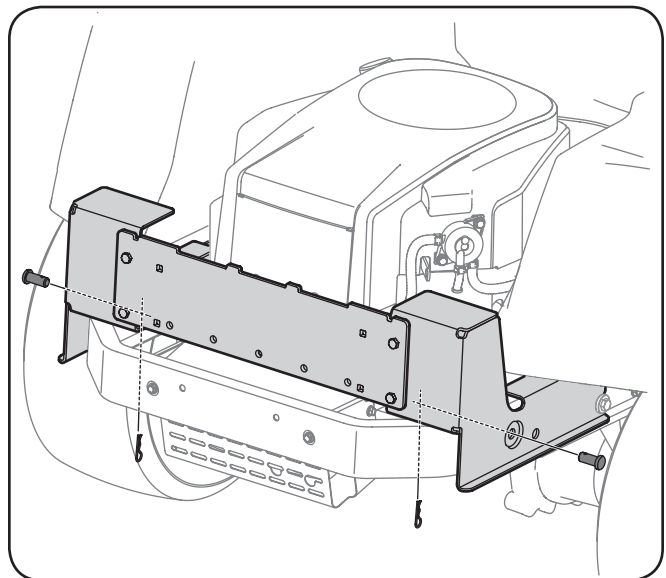

Figure 4-3
2. Secure the mounting bracket assembly to the tractor using two 911-0310 clevis pins and 914-04023 cotter pins from hardware pack 689-00320. See Figure 4-3.